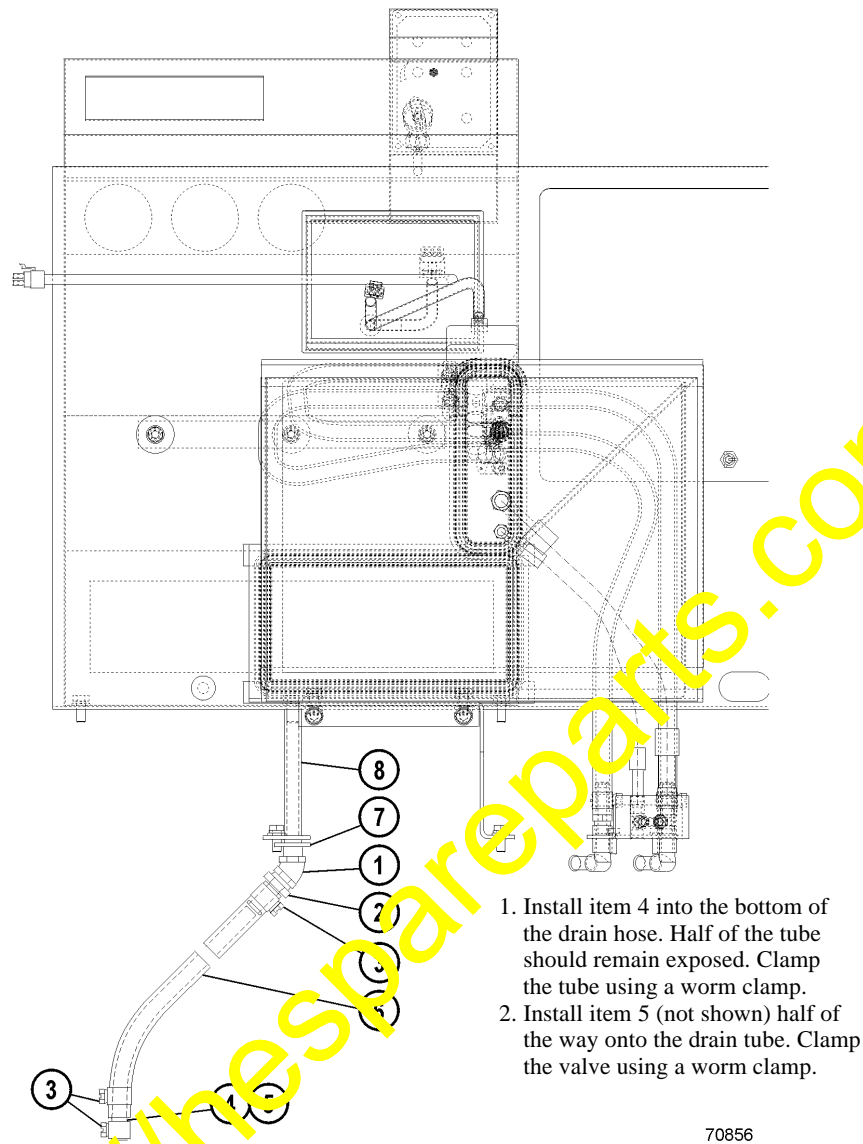

FIGURE 3. 730E/830E/930E DRAIN HOSE INSTALLATION
14. Attach the drain hose and associated parts. Route the drain hose to the appropriate location. Refer to Figure 2 for 530M/HD1500-5 trucks, and Figures 3 & 4 for 730E/830E/930E trucks. The bottom of the drain hose must be positioned so that mud is not able to accumulate on the valve opening.